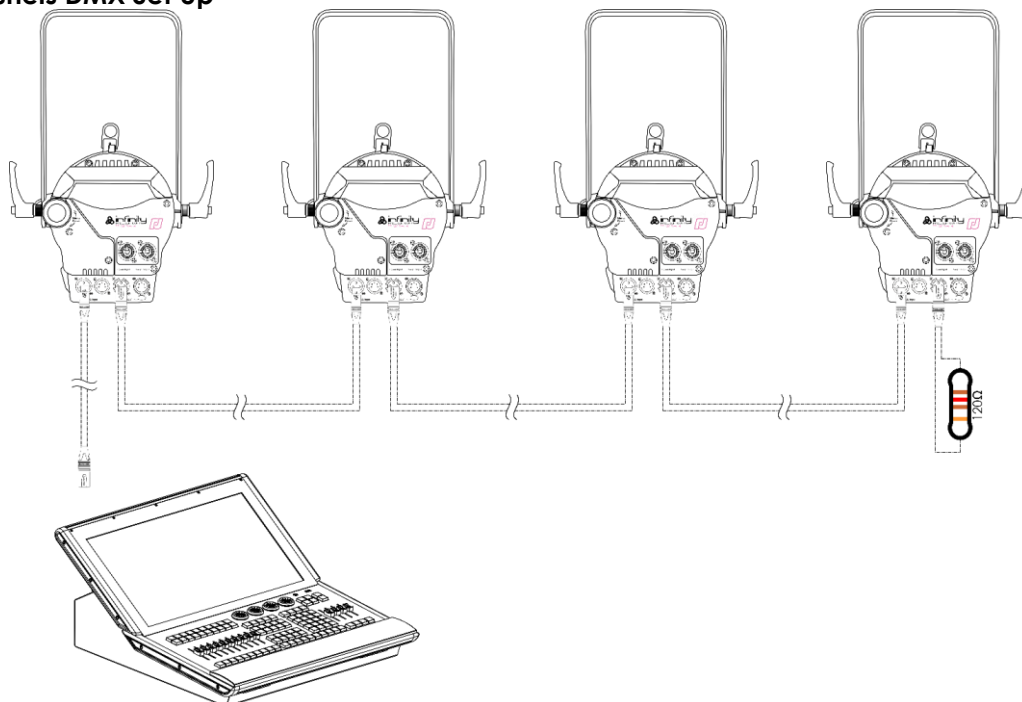

Fig. 06
- 05) Link the units as shown in fig. 06. Connect a DMX signal cable from the first unit's DMX "out" socket to the second unit's "in" socket. Repeat this process to link the second, third, and fourth units.